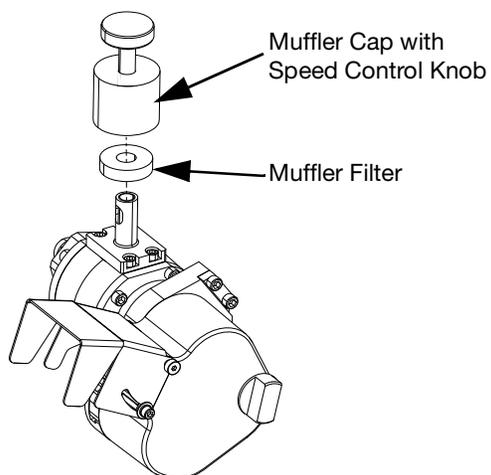

FIG. 9
3. Refer to FIG. 9. Remove the muffler cap and speed control knob by turning the cap counterclockwise.